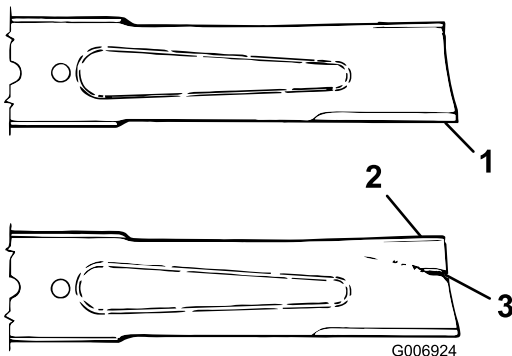

Figure 66
3. Examine the cutting ends of the blade carefully, especially where the flat and curved parts of the blade meet (Figure 66).
4. If wear is noticed (Figure 66), replace the blade; refer to Servicing the Blade Plane (page 50).